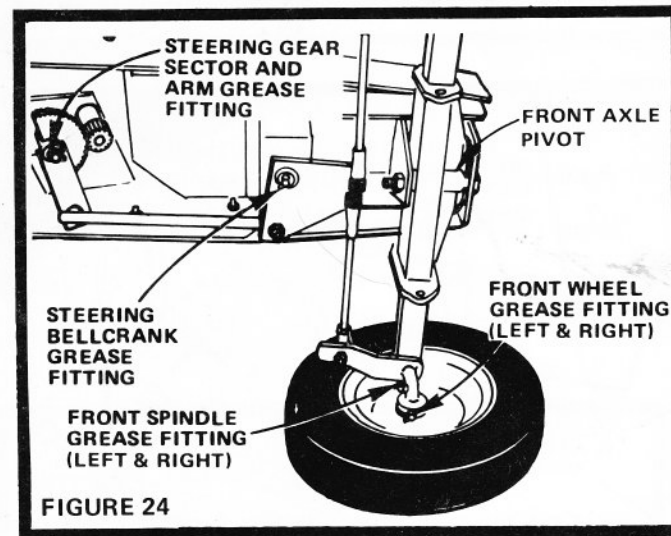

FIGURE 24
There are six Grease Fittings on your Tractor (Fig. 24). Using a Grease Gun, give each Grease Fitting two shots of Extreme Pressure Lubricating Grease Amdex No. 1 or until grease appears. This grease may be obtained by ordering Part No. 2557R through your Roper dealer.
- Front Axle Pivot (Fig. 24).